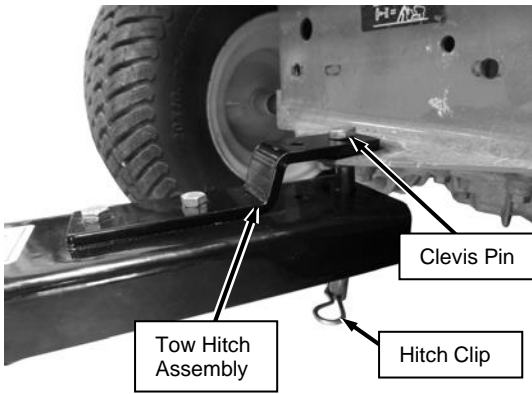

Figure 27
1. Lift the Chipper Tow Bar onto the Tractor Hitch and install the Hitch Pin and Hitch Clip to secure it (**Figure 27**).